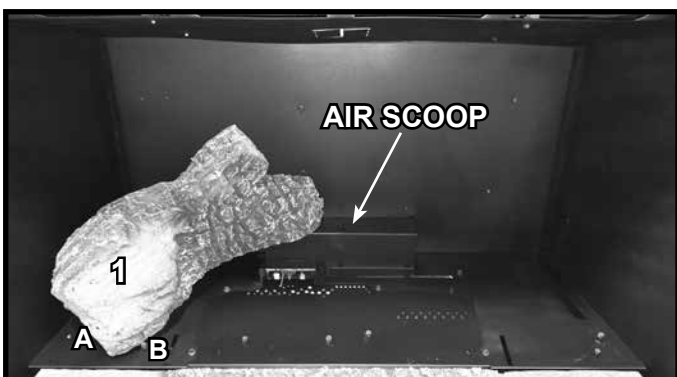

Figure 19. Log #1 Installed
**LOG #1:** Locate the cutout on the end of Log #1. The other end of Log #1 will set between log pins A and B. Rotate the cut-out end back until the cut-out fully engages the air scoop. See Figure 19.